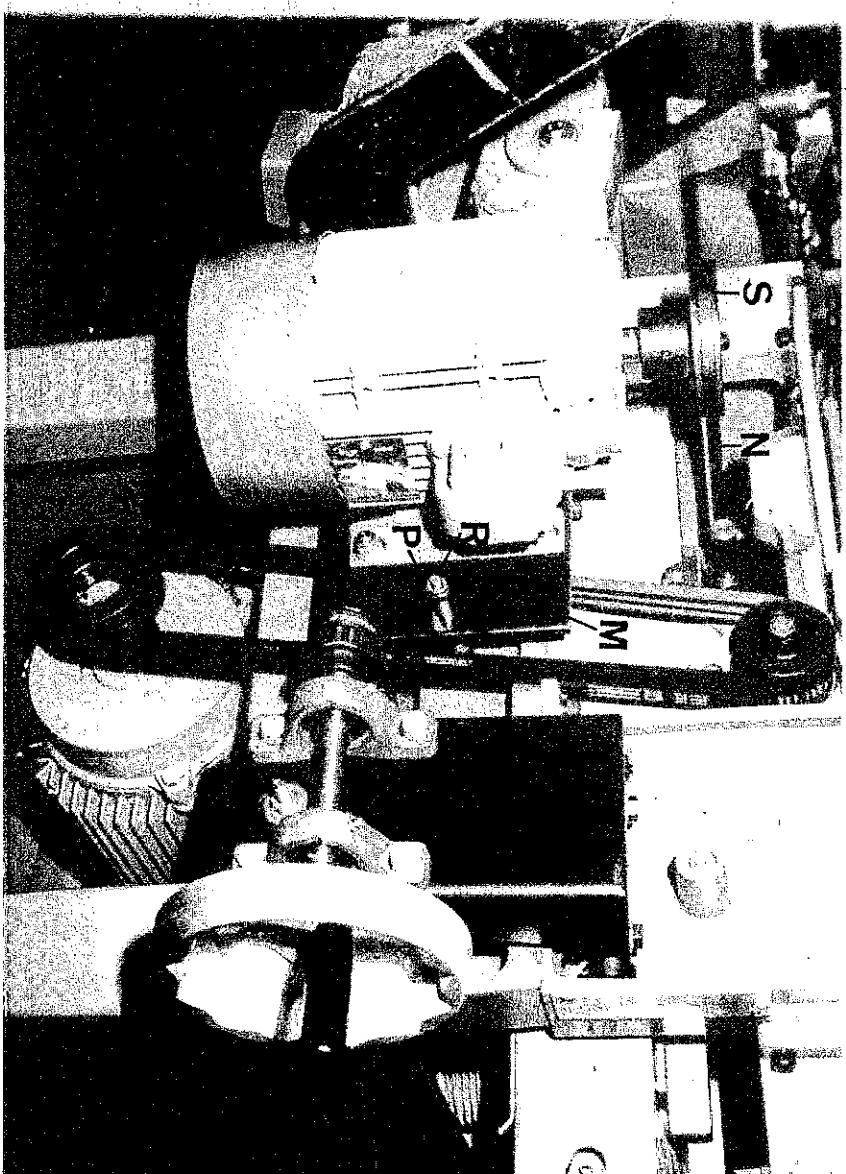

FIG. 27
- c) Depress pivot plate "M" FIG.27 to remove thicknesser side head drive belt "N" from drive pulley "S".
- d) Depress pivot plate "M" FIG.27 to remove thickneser side head drive belt "N" from drive pulley "S".